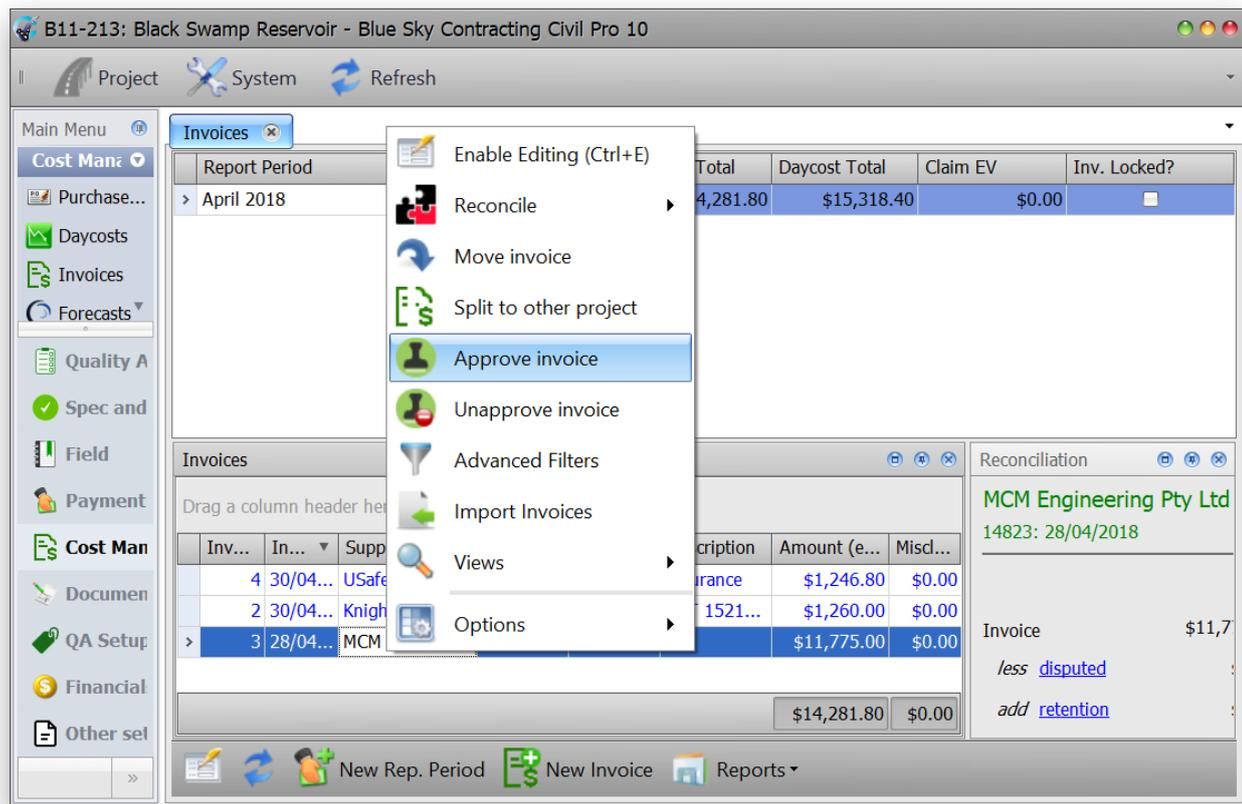

Figure 81 Invoice approval
3. Select Approve Invoice from the context menu (Figure 81). You will be prompted if any of the invoices have a misclose, as they will not be approved.